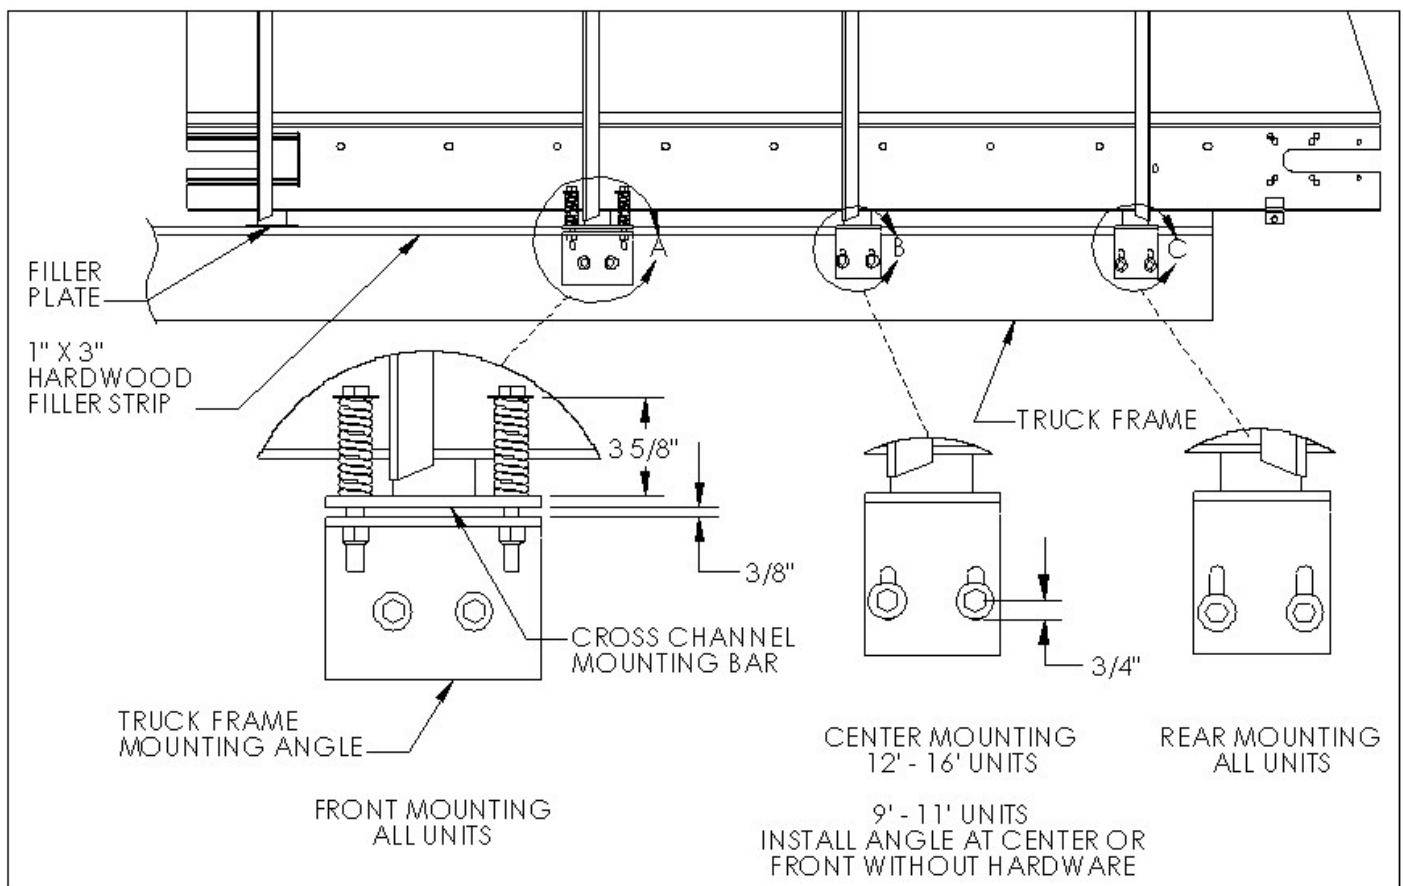
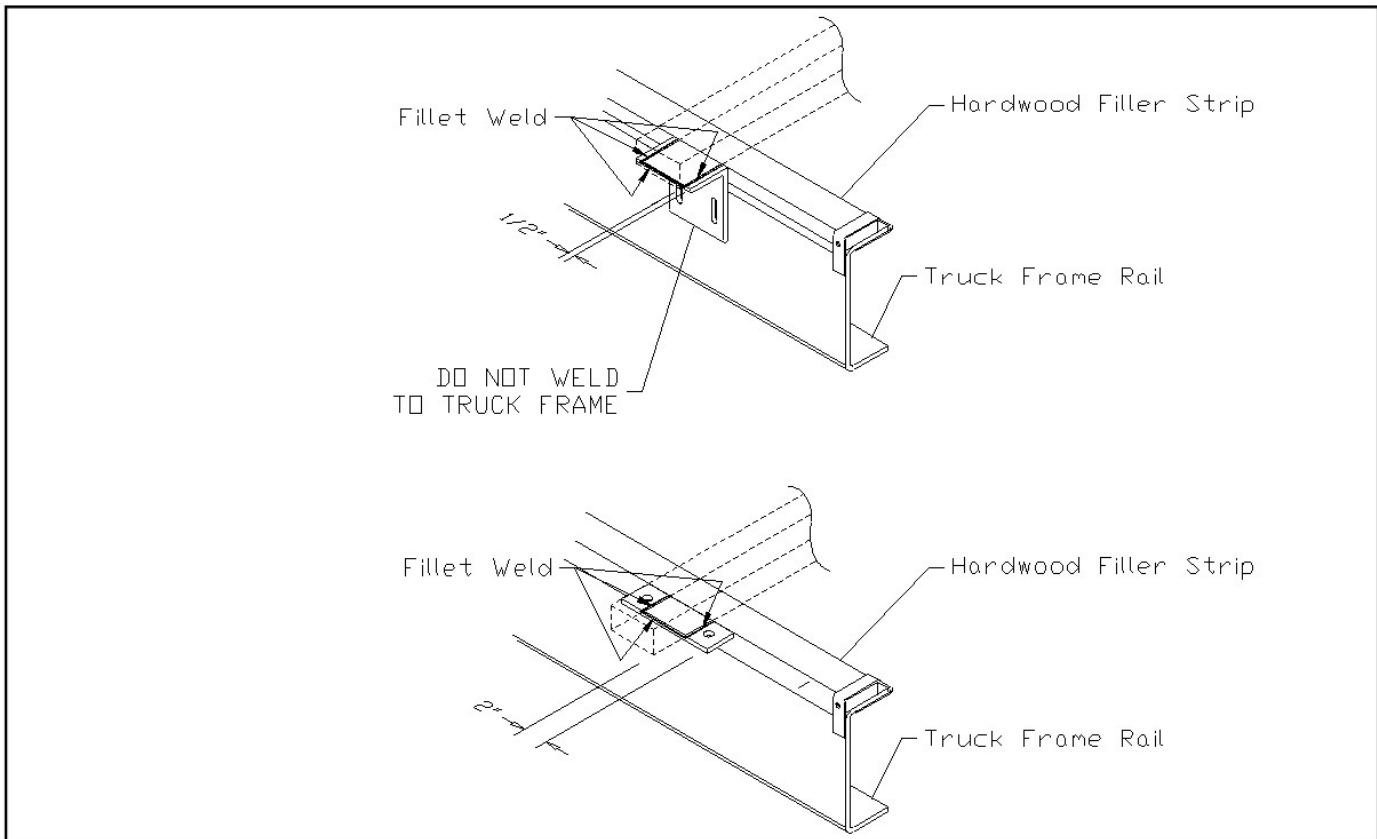

Figure 3 - Mounting Angle Installation
Figure 4 - Welding Instructions
Assemble the two front mounting angle springs and hardware. Use a 3/8" shim between the cross tube mounting plate and truck frame mounting angle. Position assembly under the second cross tube from the front and against the truck frame, make sure that the springs do not contact the cross tube. Mark the position of the holes in the mounting angle onto the truck frame. Drill two (2) 9/16" holes through the truck frame and install the mounting assembly using the 1/2" hardware supplied. Weld the mounting plate to the bottom of the cross tube on three sides and remove 3/8" shim. (Figure 4) Tighten the spring assembly until the compressed spring height is 3 5/8". There should be a 3/8" space between the cross tube mounting plate and the truck frame mounting angle. (Figure 3) Repeat this procedure on the other side of the truck frame, on the same cross tube.
Position the center mounting angles at a convenient cross tube near the center of the body with the slotted faces against the truck frame. Weld on three sides the mounting angle to the bottom of the cross tube. (Figure 4) Do not install hardware, these mounting angles are for side-to-side support only. (Figure 3)
Position the center mounting angles at a convenient cross tube near the center of the body with the slotted faces against the truck frame and mark the location of the slots on the truck frame. Drill two (2) 9/16" diameter holes through the truck frame, approximately 3/4" from the bottom of the slot. (Figure 3) Weld on three sides the mounting angle to the bottom of the cross tube. (Figure 4) Install hardware and torque according to torque chart.
Position the rear mounting angles with the slotted faces against the side of the truck frame and centered on the rear cross sill. Mark the location of the slots on the truck frame. Drill two (2) 9/16" diameter holes through the truck frame at the bottom end of the slots. (Figure 3) Weld on three sides the mounting angle to the bottom of the cross tube. (Figure 4) Install hardware and torque according to torque chart.
Install the mounting angles and tighten the mounting bolts according to the torque chart. Weld the mounting angles to the spreader cross tubes by welding them on the front, outer and rear sides. (Figure 4) Be sure welds between mounting angles and spreader cross tubes are sound full fillet welds. Center mounting angles so good fillet welds can be made on three sides—an edge bead weld is not a satisfactory weld for this service. Use dry E6013 or E7018 rod for mild steel spreaders. On stainless steel spreaders, use type 308 welding rod.